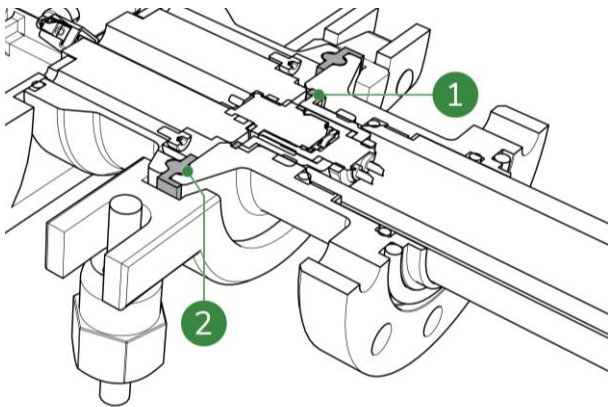

Figure 8-15: O-rings
10. Clean and inspect the grooves for the 2 sealings (Figure 8-15, pos. 1 and 2).
12. Make sure that the 2 sealings are present in the transmitter and sensor (Figure 8-15, pos. 1 and 2).